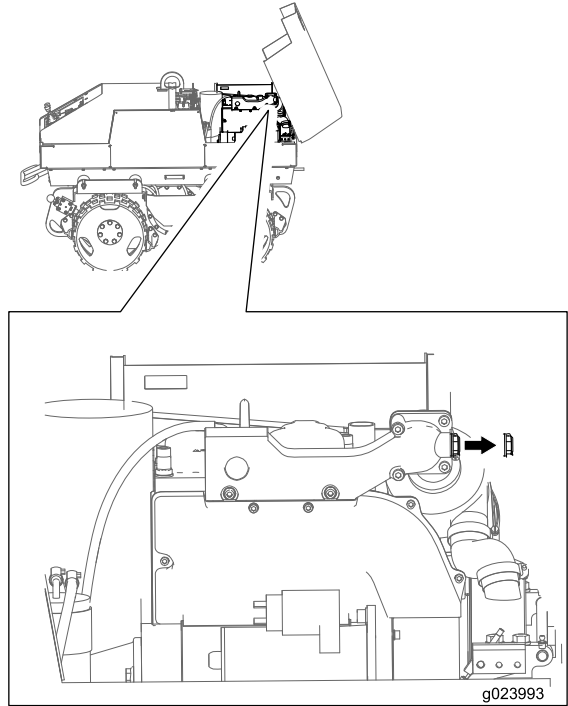

Figure 5
1. Remove the plug fitting at the front of the intake manifold of the engine (Figure 5).